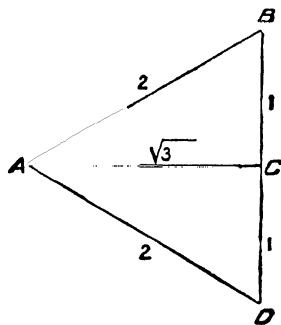

Fig. 6.
11. Functions of 30° and 60° . To find the functions of 30° and 60° , take an equilateral triangle ABD (Fig. 6). Assume each side equal to 2. Draw AC perpendicular to BD . Then by geometry, $BC = CD$ and angle $BAC = \text{angle } CAD$.